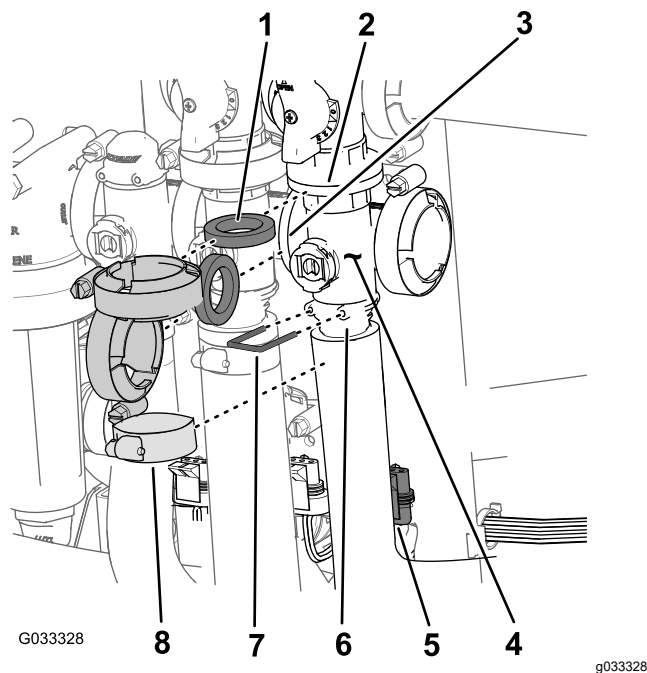

Figure 71
1. Remove the clamps and gaskets that secure the manifold for the master-section valve (Figure 71) to the master-section-bypass valve, agitation valve, and master-section-manifold valve (at the end of the hose for the flow meter).
2. Remove the retainer that secures the outlet fitting to the manifold for the master-section valve (Figure 71).